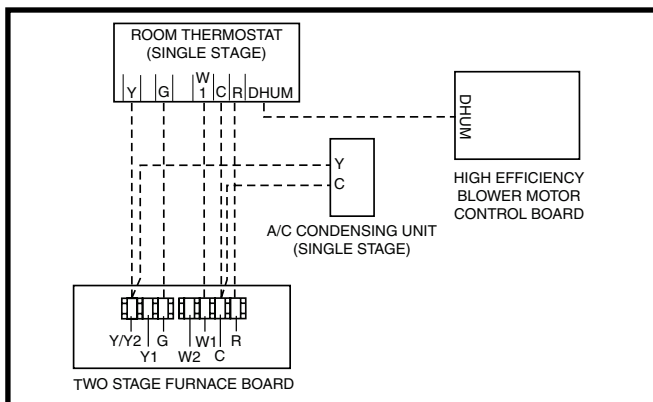
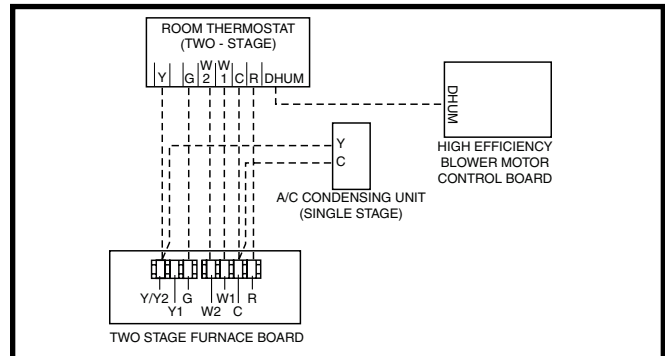
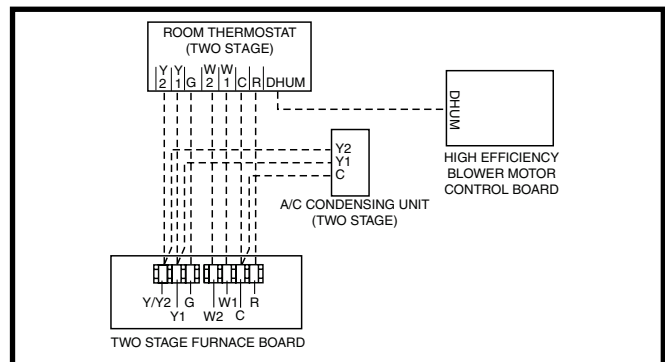

Figure 20. Wiring Configuration 1
Figure 21. Wiring Configuration 2
Figure 22. Wiring Configuration 3
- Connect the thermostat's **W** output to the furnace control boards **W1** terminal. This allows the furnace to always run in low output mode. See Figure 20.
This option uses the full two stage heating capability of the furnace with a single stage outdoor unit. See Figure 21.
This option uses the full two stage heating capability of the furnace with a two stage outdoor unit. See Figure 22.
The Autostaging feature makes it possible to use a single stage thermostat and still receive some of the benefits of 2-stage furnace operation. If Autostage is enabled, the furnace will drop to **LOW** fire after initially starting in **HIGH** fire. After a period of 10 minutes, the furnace will then stage up to **HIGH** fire, until the heating load is met. See Figure 20 and the Low Voltage Connection section on page 22.
- ✓ Verify that all needed thermostat wires are securely connected to the correct leads on the terminal strip of the circuit board. See Figure 20 \(page 22\), Figure 21 \(page 22\), & Figure 22 \(page 22\).
The operating sequences for the heating, cooling, and fan modes are described below. Refer to the field and furnace wiring diagrams: Figure 19 \(page 21\), Figure 20 \(page 22\), Figure 21 \(page 22\), Figure 22 \(page 22\), & Figure 29 \(page 32\).